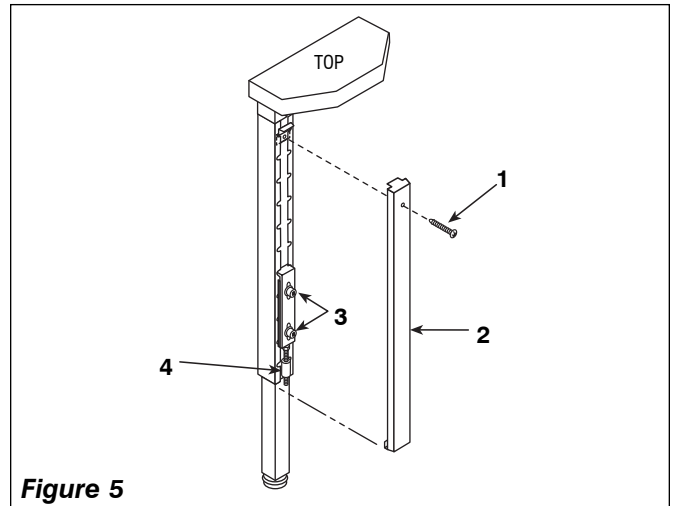

Figure 5
(Refer to Fig. 5)
2. Remove the leg adjustment cover screws (1) from the covers (2). (Fig. 5)
3. Slide the covers (2) downward disengaging the lower cover flanges from the upper leg assembly.
4. Locate the proper size allen head wrench and loosen the two socket head cap screws (3). (Fig. 5)
5. Select the proper size open end wrench and turn the fine adjustment bolt (4) to the desired height. (Fig. 5)
3. Slide the lower leg assembly (4) and the adjustment brackets (5) up or down to the desired slot in the upper leg assembly.
4. Tighten the two socket head cap screws (3) securing the lower leg assembly (2).
6. Make sure all bolts are tight. Replace the four leg adjustment covers (2) and screws (1). (Fig. 5)